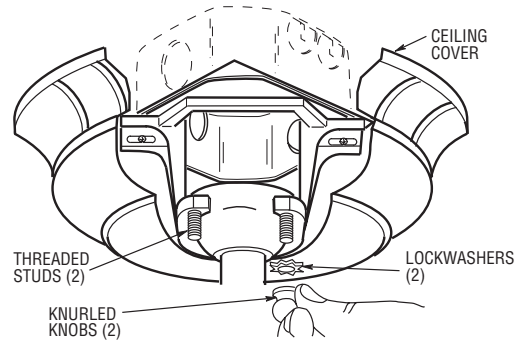

Figure 15
- 4. Lift the ceiling cover up to the threaded studs and turn until studs protrude through the holes in the ceiling cover (Figure 15).
- 5. Secure the ceiling cover in place by sliding lockwashers over the threaded studs and installing the two knurled knobs (supplied). (Figure 15). Tighten the knurled knobs securely until the ceiling cover fits snugly against the ceiling and the hole in the ceiling cover is clear of the downrod. Your fan is now wired to be turned on and off from the fan switch.